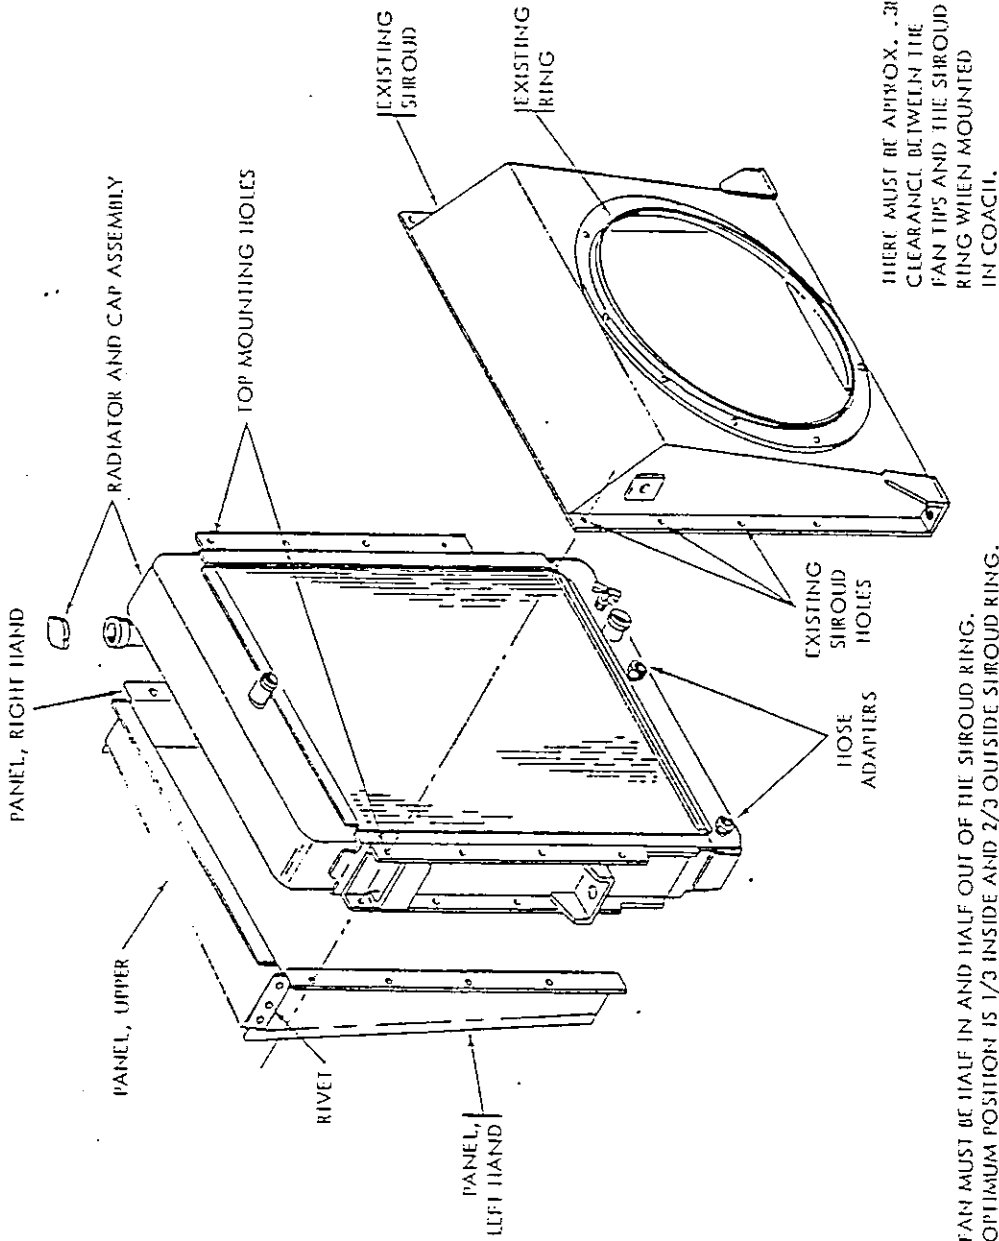

FIGURE 1
7. Check fan tip to shroud clearance per Figure 1.